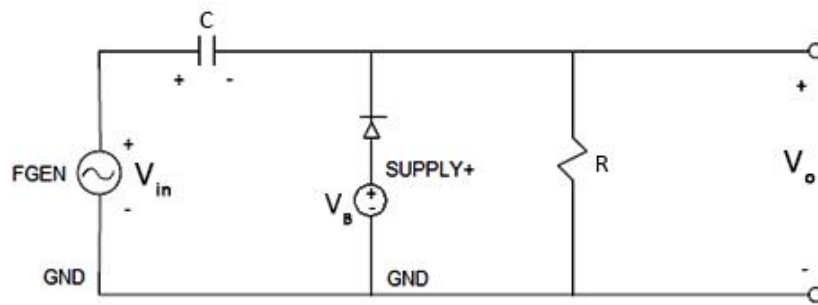

Figure 13: Clamping circuit
- I. Connect the circuit as shown in Figure 13. Select  $R=100\text{ K}\Omega$ ,  $C=47\text{ }\mu\text{F}$  and variable power supply as  $V_B$ .